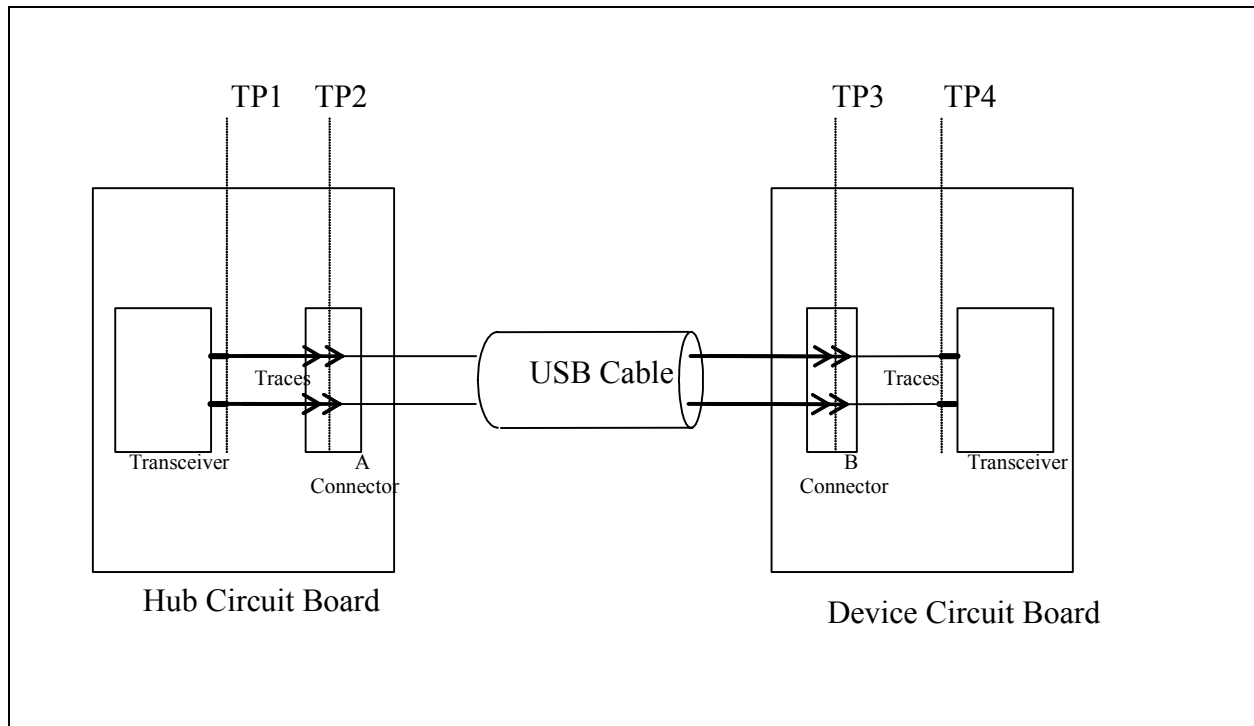
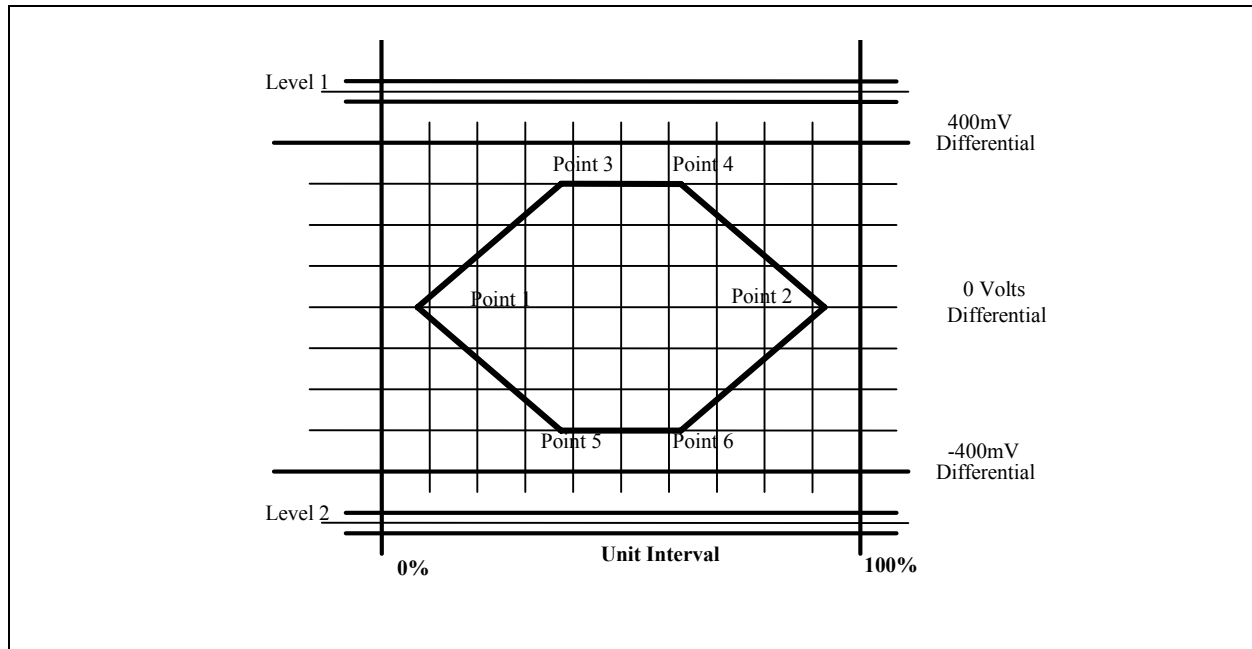
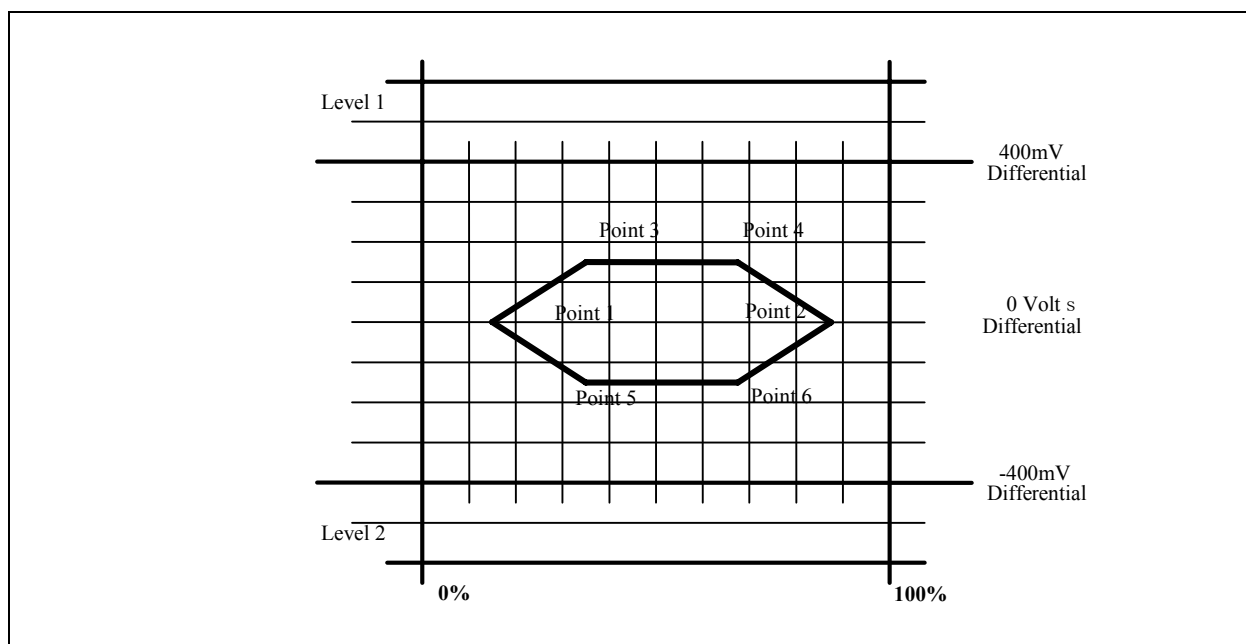

Figure 6.3 Eye Pattern Measurement Planes
Figure 6.4 Eye Pattern for Transmit Waveform and Eye Pattern Definition
Figure 6.5 Eye Pattern for Receive Waveform and Eye Pattern Definition
High-speed USB signals are characterized using eye patterns. For measuring the eye patterns 4 points have been defined (see Figure 6.3). The Universal Serial Bus Specification Rev.2.0 defines the eye patterns in several 'templates'. The two templates that are relevant to the PHY are shown below.
The eye pattern in Figure 6.4 defines the transmit waveform requirements for a hub (measured at TP2 of Figure 6.3) or a device without a captive cable (measured at TP3 of Figure 6.3). The corresponding signal levels and timings are given in table below. Time is specified as a percentage of the unit interval (UI), which represents the nominal bit duration for a 480 Mbit/s transmission rate.
The eye pattern in Figure 6.5 defines the receiver sensitivity requirements for a hub (signal applied at test point TP2 of Figure 6.3) or a device without a captive cable (signal applied at test point TP3 of Figure 6.3). The corresponding signal levels and timings are given in the table below. Timings are given as a percentage of the unit interval (UI), which represents the nominal bit duration for a 480 Mbit/s transmission rate.